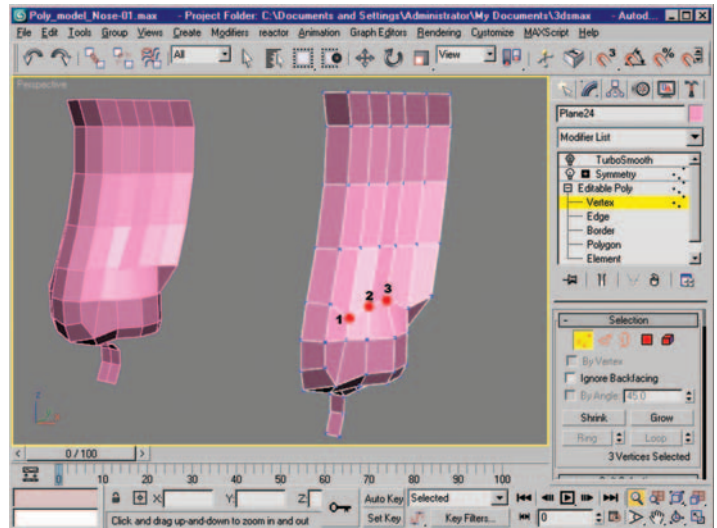

Figure 3.21 Vertices to be moved are labeled 1, 2, and 3. Left example shows mesh before editing, right shows mesh after editing.
25. Move three verts as seen in Figure 3.21 to create a curved outline that establishes the shape of the nostril. When we increase the detail in this area later, this simple vertex edit will give a nice shape-defining crease to this area.